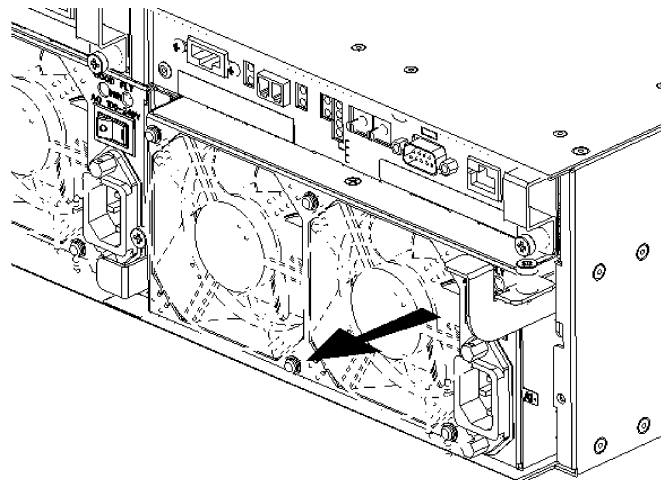

Figure 3-20 Removing the Power Supply.
6. Once the ejector is released, remove the power supply. See Figure 3-20.